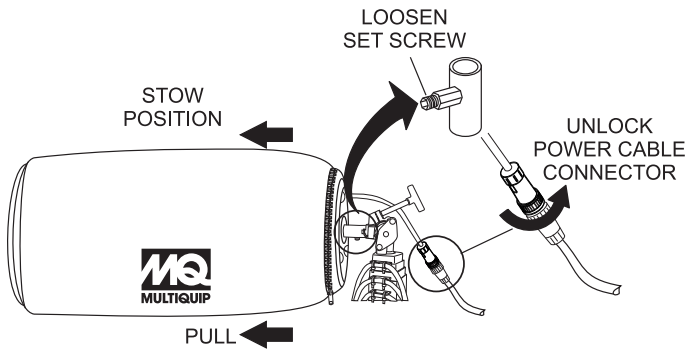

Figure 22. Removing the Balloon/Lamp
2. With a 5 mm allen wrench, loosen the set screw (Figure 22) that secures the lamp to the mast adapter stand.
3. Disconnect the lamp power cable as shown in Figure 22, and slide the balloon/lamp forward from the mast adapter stand. Place lamp/balloon assembly on a suitable work bench that is free of dirt, and sharp objects that could damage the balloon.
3. Place the lamp/balloon assembly back onto the mast adapter stand (Figure 22).